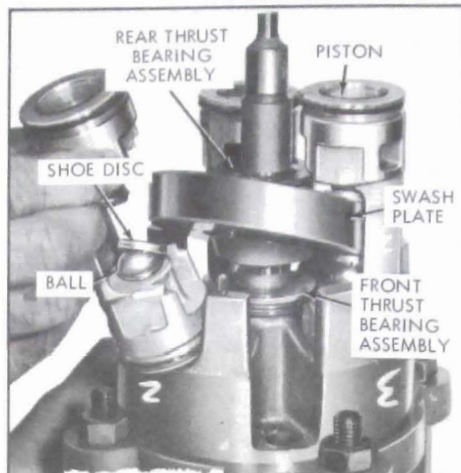

Figure 11-69—Removing Piston Assembly
7. Rotate shaft until a piston is at its highest point. Push up on shaft and remove one piston assembly at a time. See Figure 11-69. Place parts in parts tray to keep them separated.